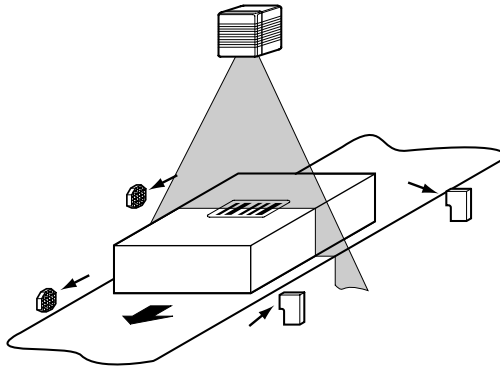

Figure 10.2:Cleaning the external optical sensors (reading cycle clock generator, object height detection)
- Also clean the optical surfaces of sensors (e.g. retro-reflective photo electric sensors) for external reading cycle generation and/or object height detection (Figure 10.2). Fouling may cause erroneous switching.